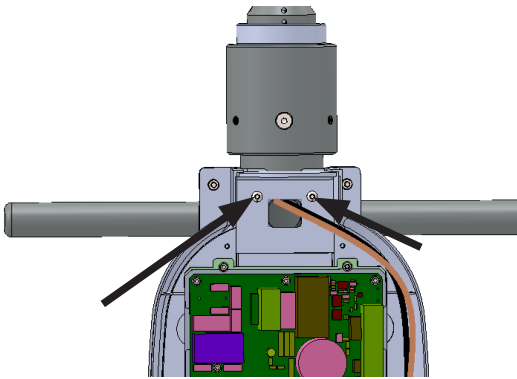
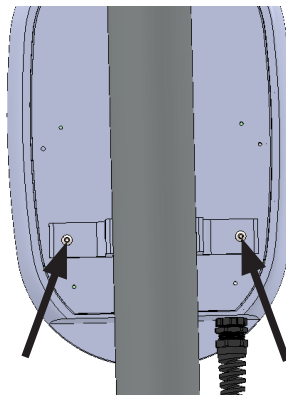
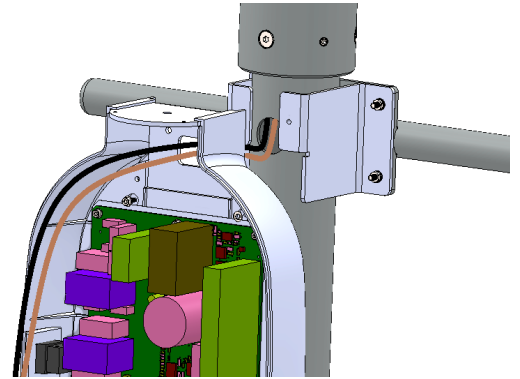

Figure 32
Figure 33
Figure 34
- Remove the Base Unit plate from the Base Column by removing the 2 M4x16 Hex socket head cap screws along with spring washers and plain washers (Figure 32) at top inner side (using 3mm Allen key) and 2 M4x16 Hex socket head cap screws along with spring washers and plain washers behind the base unit using 3mm Allen key as shown in Figure 33. Remove the base unit plate from the base stand as shown in Figure 34 and fix back the screws in its locations.
- Take the base unit near the base column and insert the cables into base unit through the hole provided on the rear plate of base unit as shown in Figure 34 and pulling from other side.
- Fix the base unit plate to the base column with 2 M4 X 16 Hex socket head cap screws along with spring washers and plain washers using 3 mm allen key as shown in Figure 32.
- Fix the 2 M4x16 Hex socket head cap screws along with spring and plane washers using 2.5 mm allen key as shown in Figure 33.